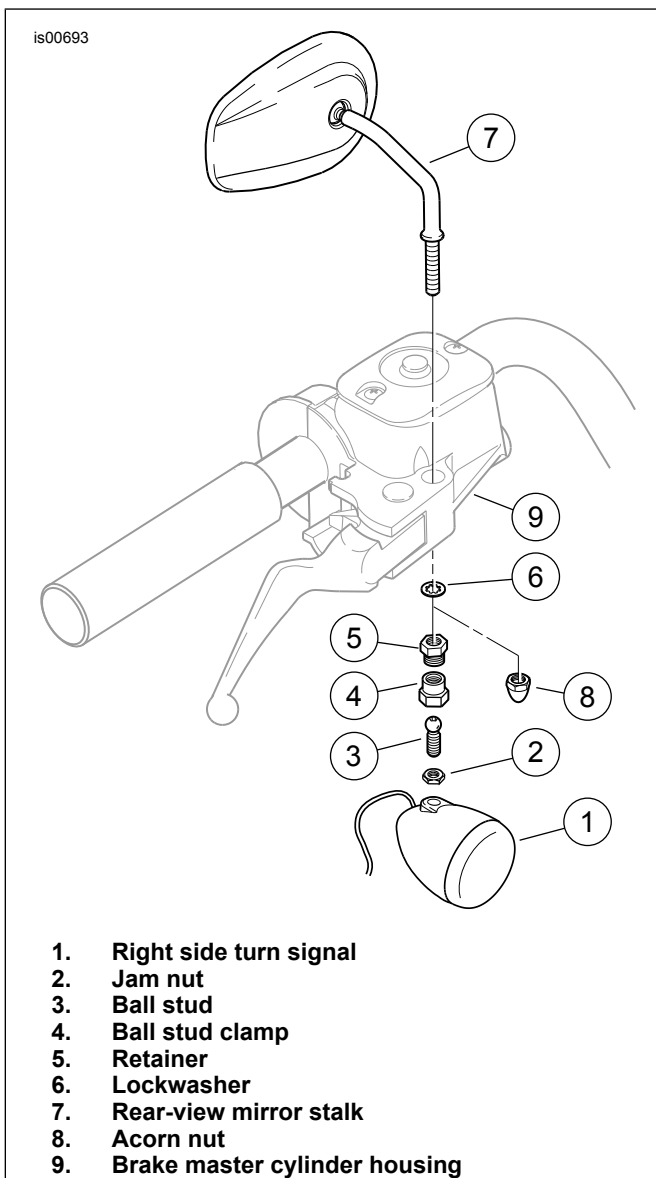
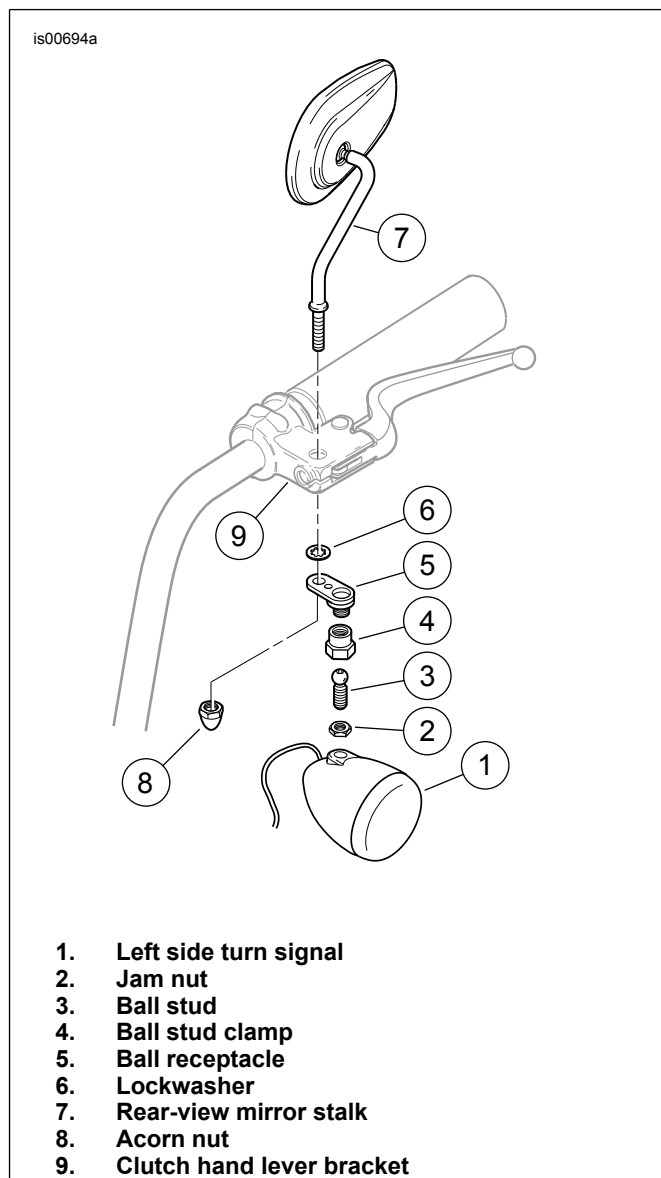

Figure 2. Right Side Turn Signal Removal
Figure 3. Left Side Turn Signal Removal
8. See Figure 2. Loosen the jam nut (2).
9. Remove the ball stud clamp (4) from the retainer (5). Discard ball stud clamp.
10. Remove and discard the ball stud (3) and jam nut from the right side turn signal (1). Remove the turn signal lamp and allow it to hang down, taking care not to damage any surfaces.
11. Remove the retainer (5) and lockwasher (6) from the rear-view mirror stalk (7). Discard the lockwasher and retainer.
12. See Figure 3. Loosen the jam nut (2).
13. Remove the ball stud clamp from the ball receptacle (5). Discard the ball stud clamp. Unscrew and discard the ball stud (3) and jam nut from the left-side turn signal (1). Remove the turn signal lamp and allow it to hang down, taking care not to damage any surfaces.
- ALL models:** See Figure 2. Fasten the mirror stalk to the front brake master cylinder housing (9) with the acorn nut (8) and lockwasher (6) from the kit, but do not fully tighten at this time.
- See Figure 3. Fasten the mirror stalk to the clutch hand lever bracket (9) with the acorn nut (8) and lockwasher (6) from the kit, but do not fully tighten at this time.